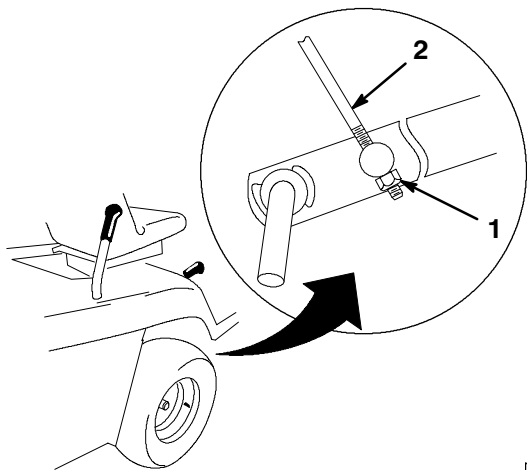

Figure 40
4. Adjust the M8 locknut at the end of the height adjustment rod assembly until the rod is slightly taut (Fig. 40).